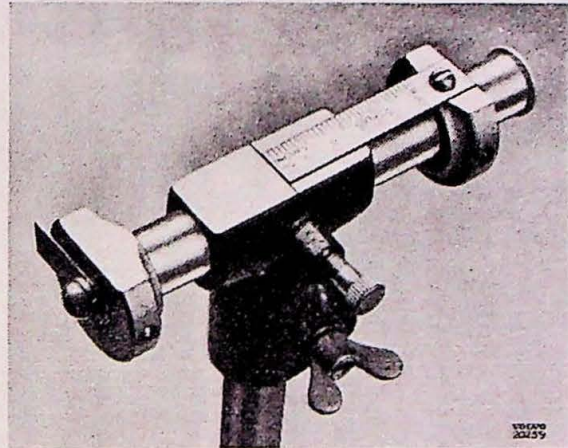
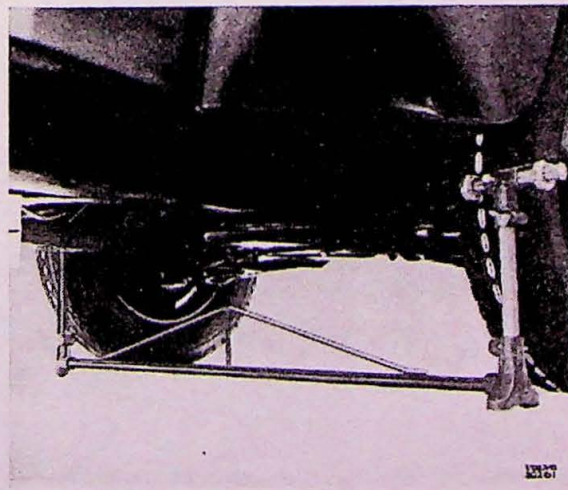

Fig. 42.
Fig. 43.
5. Set nonius (fig. 42) to zero and pointers to hub height. Locate the instrument behind the wheels with the measuring end pointer against the right wheel marking line and adjust the other pointer against the left wheel marking line (fig. 43).